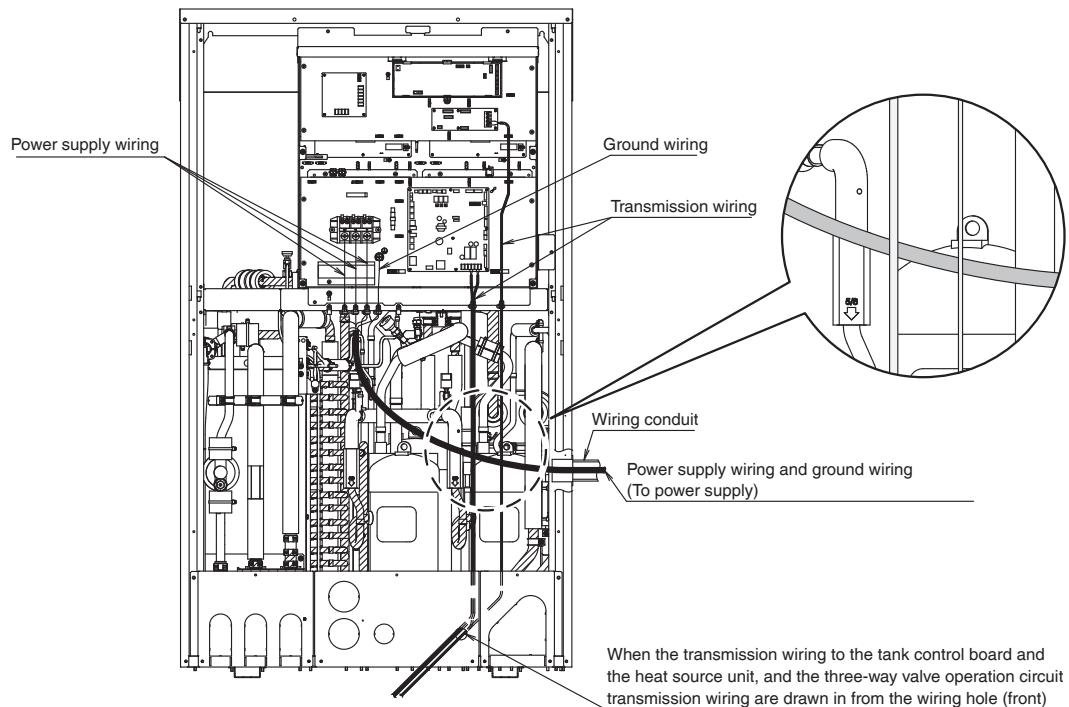
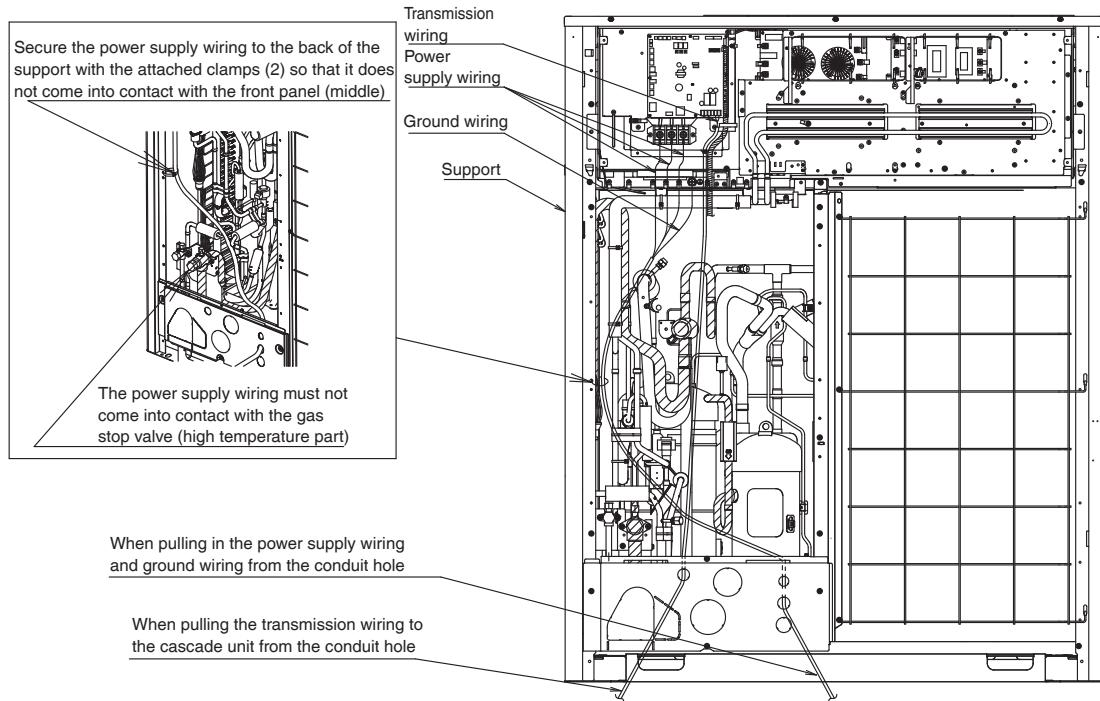

Fig. 27
Fig. 28
- Refer to Fig. 27 and Fig. 28 for wiring.
- Fix the power supply wiring and ground wiring of the heat source unit to the back of the support with the attached clamp (2).
- Route so that wiring does not come into contact with the compressor and high temperature piping (▨ in Fig. 27 and Fig. 28).